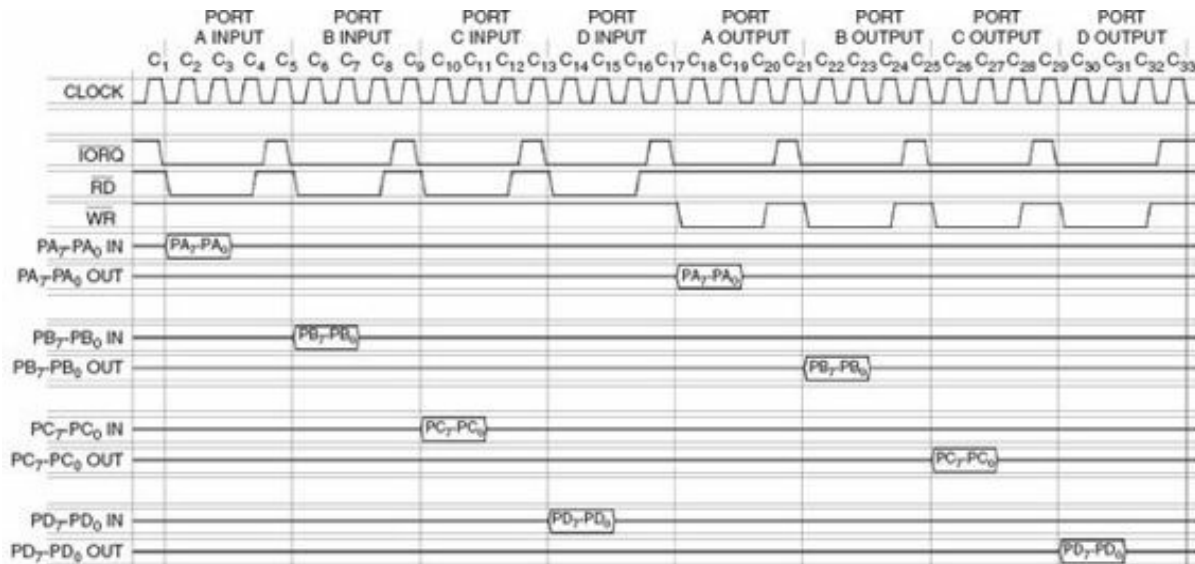
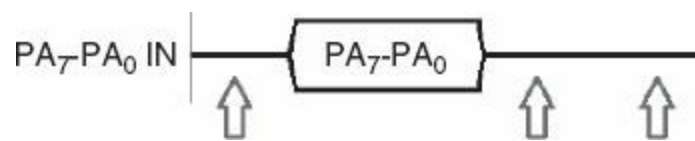

FIGURE 12.6 Microcontroller with four GPIO ports.
FIGURE 12.7 Port A input for the microcontroller.
Timing diagrams for microcontrollers are very different from those of microprocessors. Many microcontroller applications do not use any external address and data bus connections. The microcontroller timing diagrams of Fig. 12.6 are very different from the timing diagrams for the Z80180 in Fig. 12.5.
In Fig. 12.6, during clock pulses 1 to 17, microcontrollers with four built-in GPIO ports are shown. The first four operations are inputs from ports A, B, C, and D. The times between the inputs, instructions are being fetched and executed. Because the program memory is inside the CPU, no address or data signals are visible that can identify the status of instruction fetches from memory. During clock pulses to 17 signals RD and IORQ are active, but WR is not. This indicates that I/O is being used and that data is being taken in to the CPU from the outside world or read into the CPU from the ports.
Figure 12.7 shows the part of Fig. 12.6 where the input from port A takes place. The parts marked with the arrows are high-Z intervals between input operations. If a buffer gate array from outside were attached so it would pass data into the eight pins of port A, it would be disabled at this time and no input signals (high or low) would be presented to these pins.
Figure 12.8 depicts a real oscilloscope trace you will see instead of the theoretical Fig. 12.7. The features of Fig. 12.7 differ from reality in three ways:
3. The flat parts of Fig. 12.7, between active input events on that pin, are in reality not flat. What is shown in Fig. 12.8 is electrical noise. The noise is so far from flat that some of the voltages in the waveform are high enough to be legitimate 1s and others are low enough to be legitimate 0s.